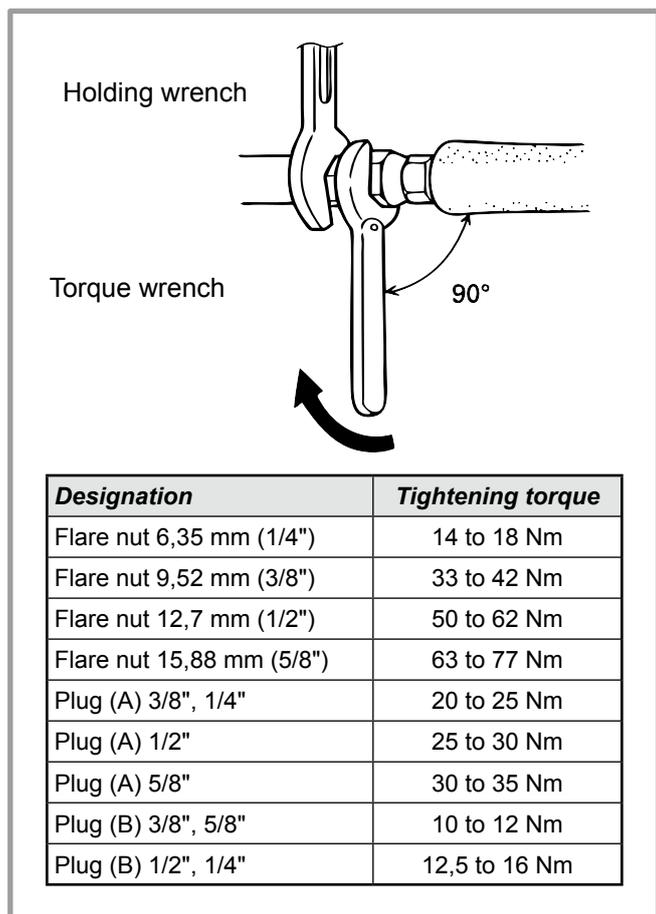

figure 17 - Tightening torque
- Remove the access plugs (A) from the valve controls.
- Refit the 2 plugs and tighten them to the recommended tightening torque (figure 17, page 18).